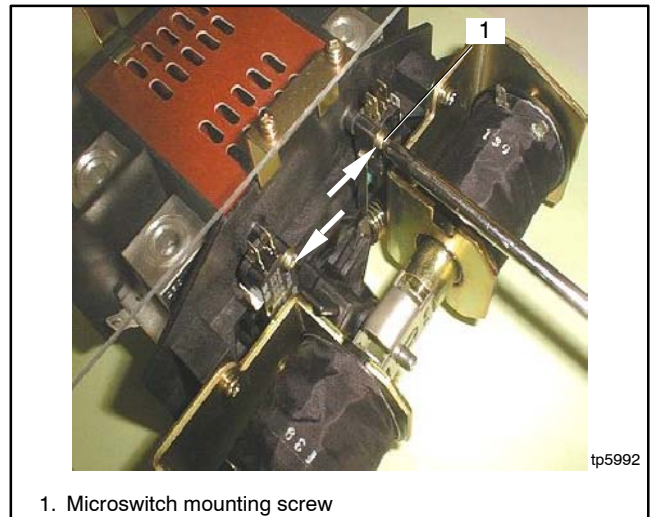

Figure 7-19 Install new Microswitch, 200 A Models
1. Remove the microswitch mounting screw and microswitch. See Figure 7-19.
2. Install the new microswitch. Push the microswitch mounting screw in the direction of the arrow shown in Figure 7-19 and tighten it to 0.44 Nm (4 in. lb.).